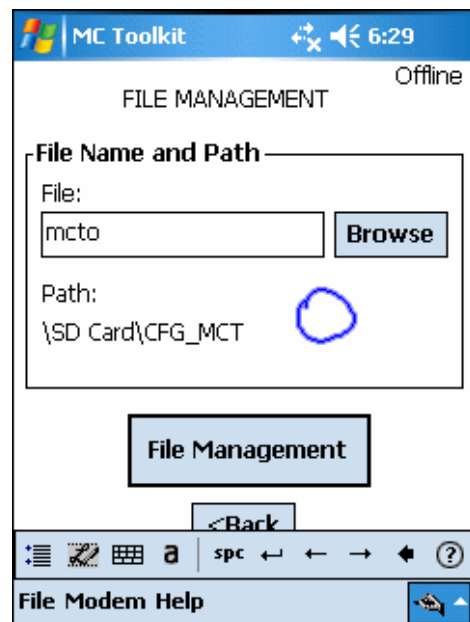

Figure 3-9 Freehand recognition
2. Use the stylus to input the characters by writing them on the screen, in cursive, print or, mixed handwriting. The character input is recognized and displayed on the screen as shown in Figure 3-9.